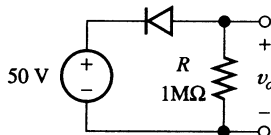

Figure P3.6
3.6. Consider the circuit shown in Figure P3.6. Assume that the reverse diode current is independent of the reverse voltage. If $v_o = 0.5$ V at a temperature of 70°C , estimate its values at 50°C and at 100°C . (Hint: A rule of thumb is that the reverse current doubles for each 10-K increase in temperature.)